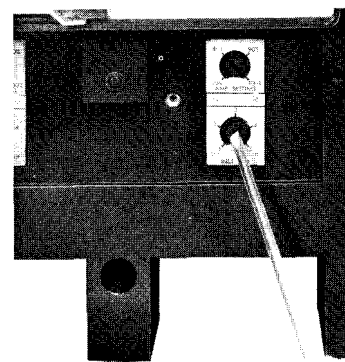

Figure 18. Adjusting Trip Unit Setting
- B. Change trip setting by rotating plastic buttons with a screwdriver (See Fig. 18).